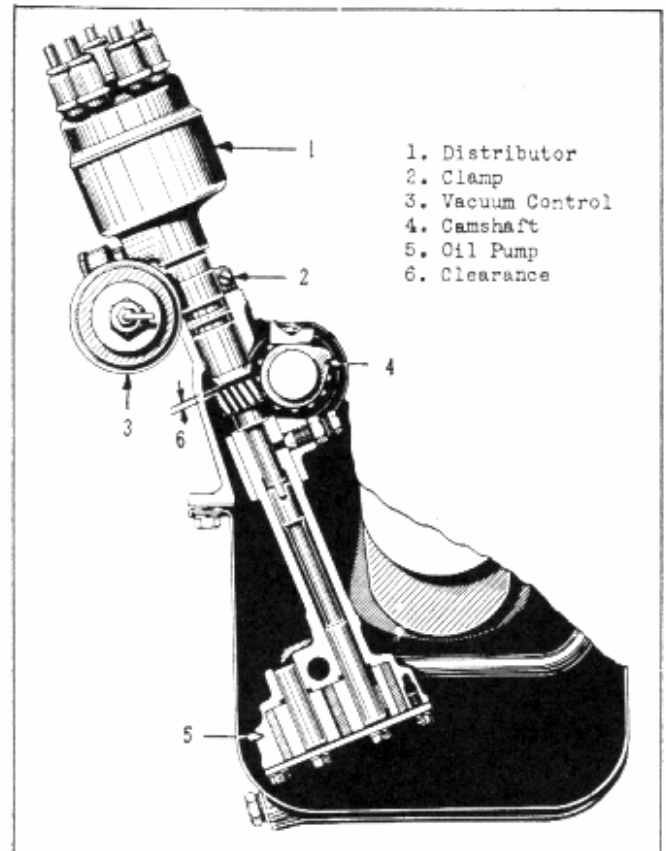

Fig. 54—Distributor Mounting Shown
An engine operating under part throttle can have a spark advance in addition to the centrifugal advance without objectionable ping. With an additional advance obtained by a vacuum advance mechanism, the engine will show greater gasoline economy. The vacuum control consists essentially of a diaphragm and a link acting against a spring. The mechanism is mounted as shown in Fig. 54—56 and is linked to the distributor body. The body is rotated to secure the vacuum control of the spark advance.
4. It is important that a slight clearance be maintained between the upper and lower end of the housing at points shown in Fig. 54 at No. 6. When the distributor is first placed in operating position, the lower end of the housing will contact the drive gear. Before tightening the clamp (in back of the distributor on the body), remove the cap and place the fingers under the